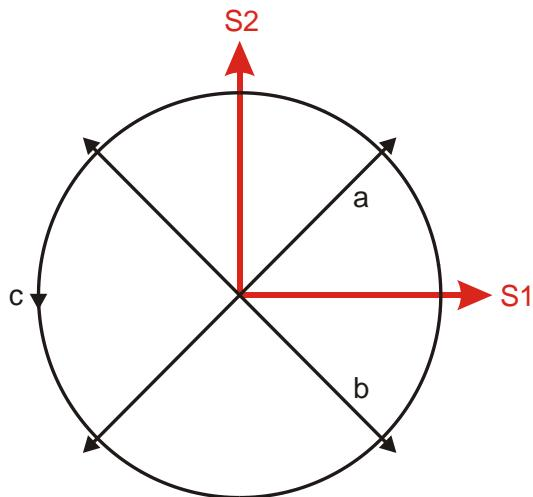
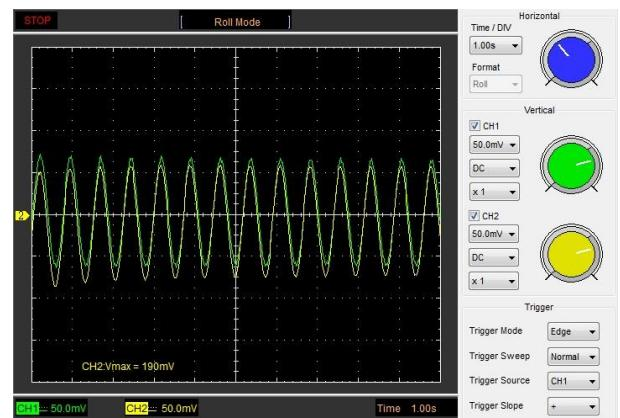

Fig. 2: The alignment of sensors S1 and S2, including the oscillation directions of the string pendulum under investigation
Fig. 7: Oscillation components for a string pendulum swinging along the line bisecting the two force sensors
- Slightly deflect the string pendulum and allow it to oscillate in a plane which bisects the alignment of the two force sensors (oscillation path a in Fig. 2). Observe the oscilloscope trace and save it.
- Slightly deflect the string pendulum and allow it to oscillate in a plane which is perpendicular to the one which bisects the two force sensors (oscillation path b in Fig. 2). Observe the oscilloscope trace and save it.
- Slightly deflect the string pendulum and allow it to oscillate in a circle (oscillation path c in Fig. 2). Observe the oscilloscope trace and save it.
When the pendulum is oscillating in the plane of the bisecting angle between the sensors, the two sensors will experience symmetric loading (oscillation path a in Fig. 2). The signals from the two force sensors will be in phase, i.e. the phase shift between them will be  $\phi = 0^\circ$  (Fig. 7).
When the pendulum is oscillating in the plane perpendicular to the bisecting angle between the sensors, the two sensors will experience asymmetric loading (oscillation path b in Fig. 2). The signals from the two force sensors will be wholly out of phase, i.e. the phase shift between them will be  $\phi = 180^\circ$  (Fig. 8).